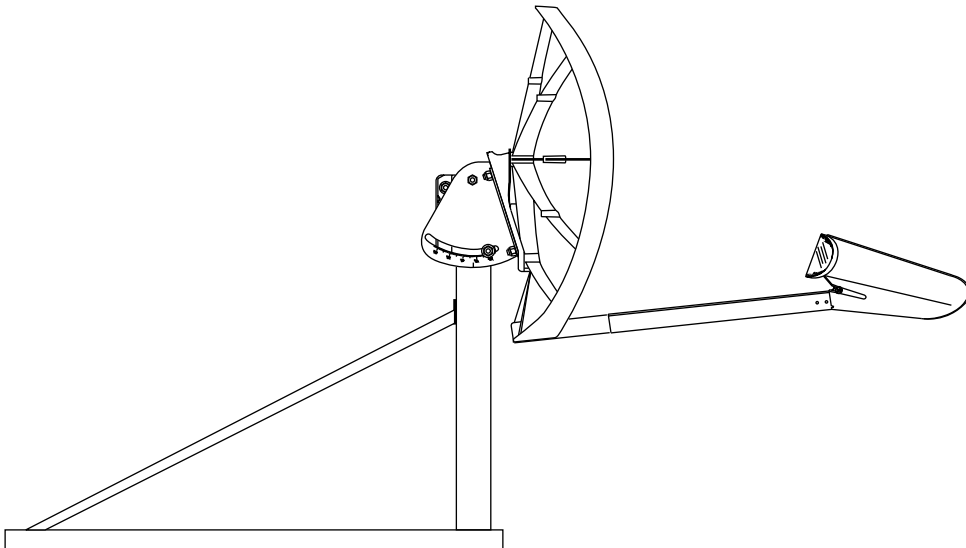
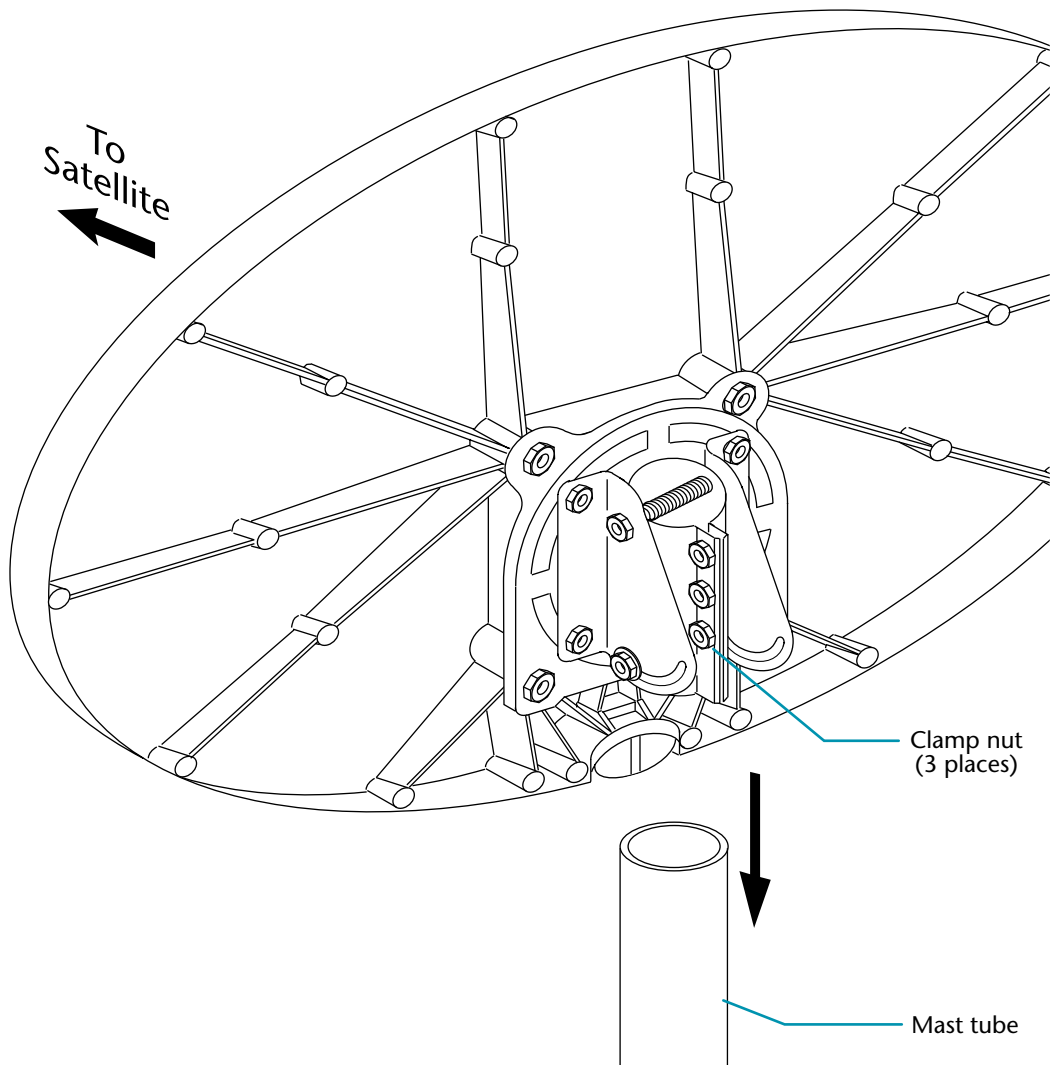

Figure 4-5. Non-penetrating mount installation
Figure 4-11. Installing antenna/cap mount assembly onto mast
This section describes installing the antenna assembly onto a non-penetrating mount (NPM) (see figure 4-5). Information on ballast requirements is also included. Read this section thoroughly before beginning system assembly. For best results in the assembly process, perform each step in the same sequence as listed in this manual.
1. Lift antenna/cap mount assembly and slide AZ/EL cap mount onto mast tube (see figure 4-11). Face of antenna should be parallel to front of base (see figure 4-5).